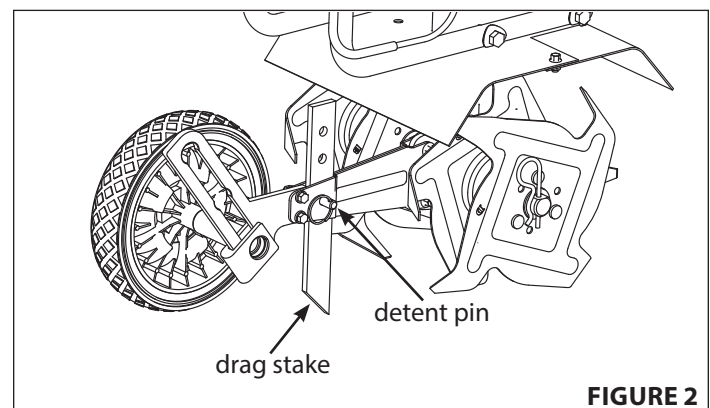

FIGURE 2
4. The drag stake is shipped with point facing upwards. Before using, remove detent pin and turn the drag stake around so the point is directed in the downward position facing towards the tines. Re-insert detent pin. **SEE FIGURE 2**